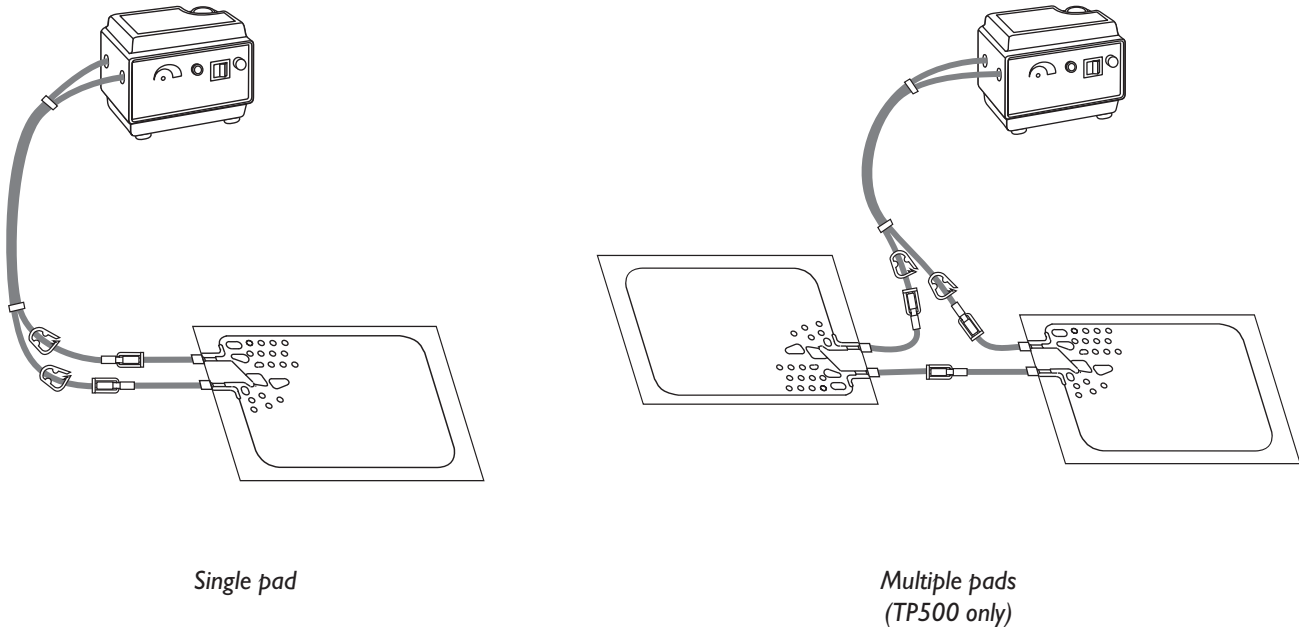

Figure 1—T/Pump Heat Therapy System
**NOTE:** Refer to figure 1 (p. 2) and item 9 (p. 6) when connecting multiple pads.